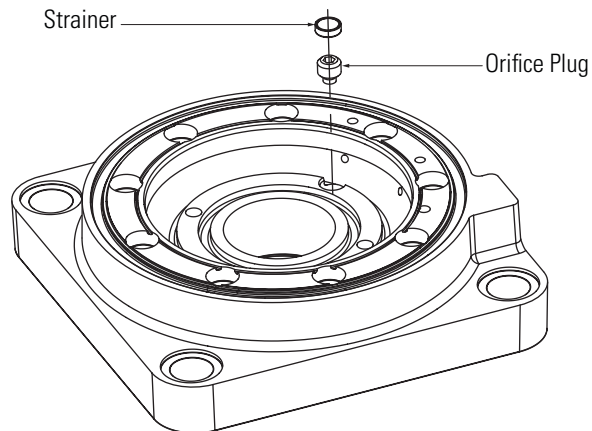

Figure 5
- 4.2.6 Install the Plug, Orifice and then Strainer as shown in Fig 5 for Open Loop Configuration only
- 4.4.6 Install the Plug, Orifice and then Strainer as shown in Fig 5 for Open Loop Configuration only